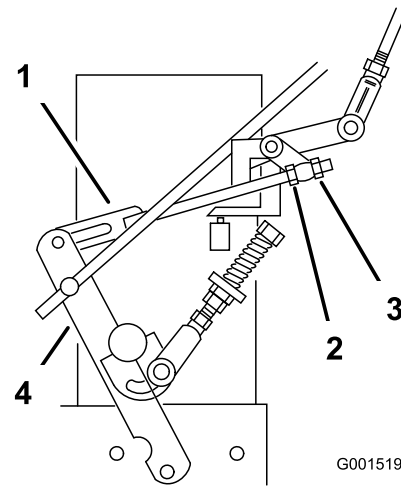

Figure 39
8. Loosen the front adjusting nut on left hydro control linkage as shown in Figure 39.
9. Turn the left rear adjusting nut counter-clockwise until wheel rotates forward (Figure 39).
10. Turn the rear adjusting nut clockwise 1/4 of a turn at a time. Then move the speed control lever forward and back to neutral. Repeat this until left wheel stops rotating forward (Figure 39).